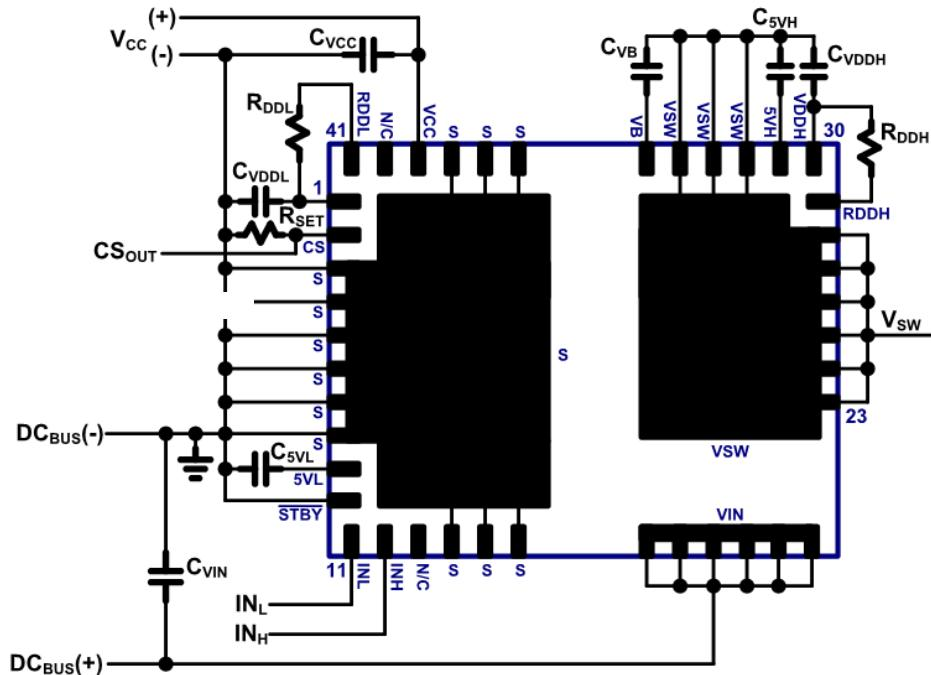

Fig. 24. IC connection diagram
The typical connection diagram for this GaN Half-Bridge IC is shown in Fig. 24. The IC pins include the drain of the high-side GaN power FET (V_{IN}), the half-bridge mid-point switched node (V_{SW}), the source of the low-side GaN power FET and IC GND (P_{GND}), low-side IC supply (V_{CC}), low-side gate drive supply (V_{DDL}), low-side turn-on dV/dt control (R_{DDL}), low-side 5V supply ($5V_L$), low-side referenced PWM inputs (IN_L , IN_H), low-side current sensing output (CS), auto-standby enable input (STBY), high-side supply (V_B), high-side gate drive supply (V_{DDH}), and high-side 5V supply ($5V_H$). The external low-side components around the IC include V_{CC} supply capacitor (C_{VCC}) connected between V_{CC} pin and P_{GND} , V_{DDL} supply capacitor (C_{VDDL}) connected between V_{DDL} pin and P_{GND} , turn-on dV/dt set resistor (R_{DDL}) connected between V_{DDL} pin and R_{DDL} pin, current sense amplitude set resistor (R_{SET}) connected between CS pin and P_{GND} , 5V supply capacitor (C_{5VL}) connected between $5V_L$ pin and P_{GND} , and the auto-standby enable pin (STBY) connected to P_{GND} to enable auto-standby mode or connected to $5V_L$ to disable auto-standby mode. The external high-side components around the IC include V_B supply capacitor (C_{VB}) connected between V_B pin and V_{SW} , V_{DDH} supply capacitor (C_{VDDH}) connected between V_{DDH} pin and V_{SW} , turn-on dV/dt set resistor (R_{DDH}) connected between V_{DDH} pin and R_{DDH} pin, and 5V supply capacitor (C_{5VH}) connected between $5V_H$ pin and V_{SW} . The high side V_B , $5V_H$ and V_{DDH} bypass capacitors must be chosen carefully to accommodate various system considerations such as high side wake up time, high side hold up time and standby power.